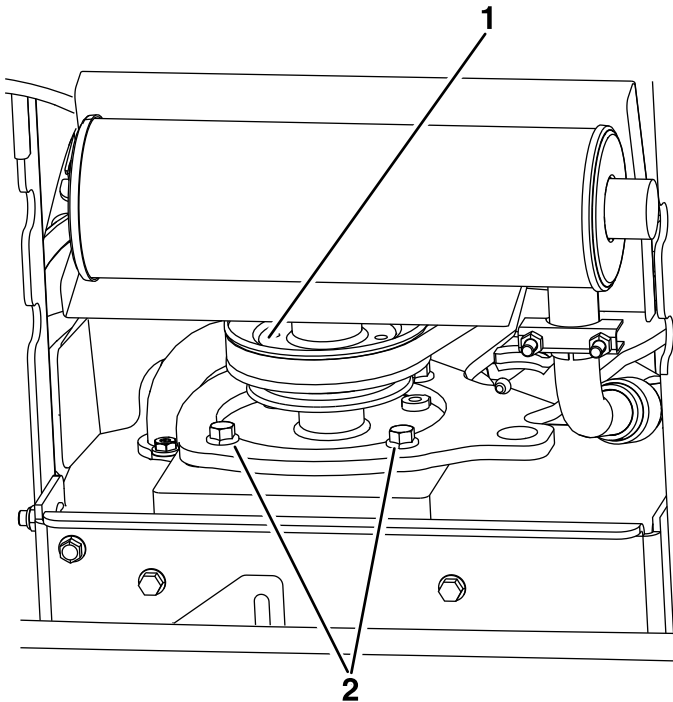

Figure 4
6. Remove the two lower pump plate bolts (item 2, Figure 4).